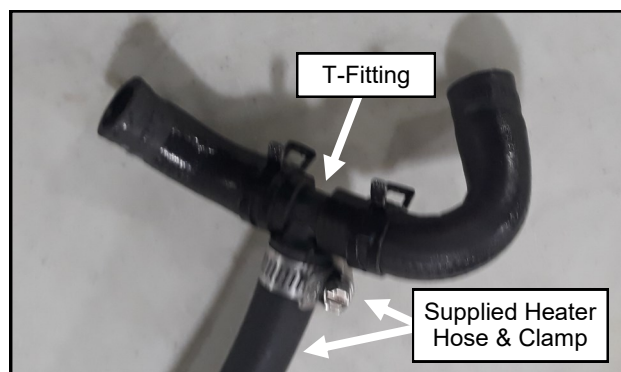

Figure 18.10 (By-Pass Hose w/ T-Fitting)
- 18.10** Cut the by-pass hose where marked and remove a 1/2" piece at the spot where cut. Keeping the molded by-pass hose oriented as it was before cutting, install the provided T-fitting at the cut with 2 hose clamps removed in step 18.9. Install the remaining heater hose to the top of the T-fitting with hose clamp provided. See Figure 18.10.